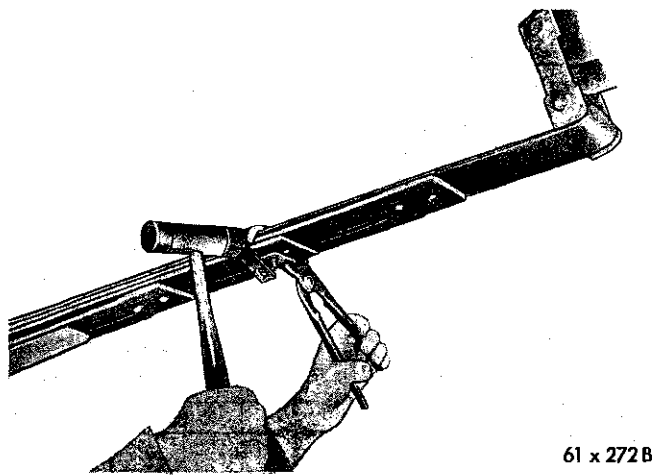

Fig. 7—Positioning the Alignment Clip
(4) Position the aligning clip (Fig. 7) and tighten